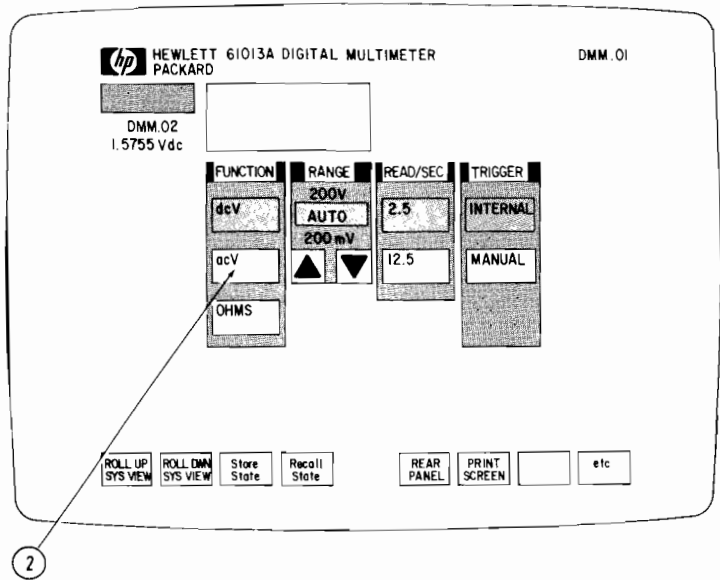

**Figure 2-1. Select the Instrument**
**Step #1** - If your DMM does not already appear in the Interactive Instrument Window, point to and select DMM.01 from the label(s) listed in the System View Window (see Figure 2-1). If you have many instruments in your system, you may have to use the **ROLL UP SYS VIEW** and **ROLL DWN SYS VIEW** softkeys to view them all. When you select an instrument from the list, the ACTIVE indicator on the front panel of the instrument will light.